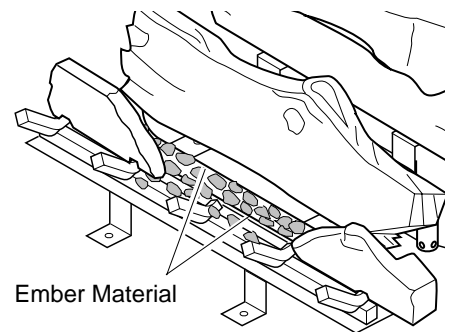

Figure 49 - Placing Ember Material on Burner
7. Pull ember material apart into pieces no larger than a dime. Place these pieces loosely and sparingly directly onto the exposed section of the front burner and along the space between the burner and grate prongs (see Figure 49).